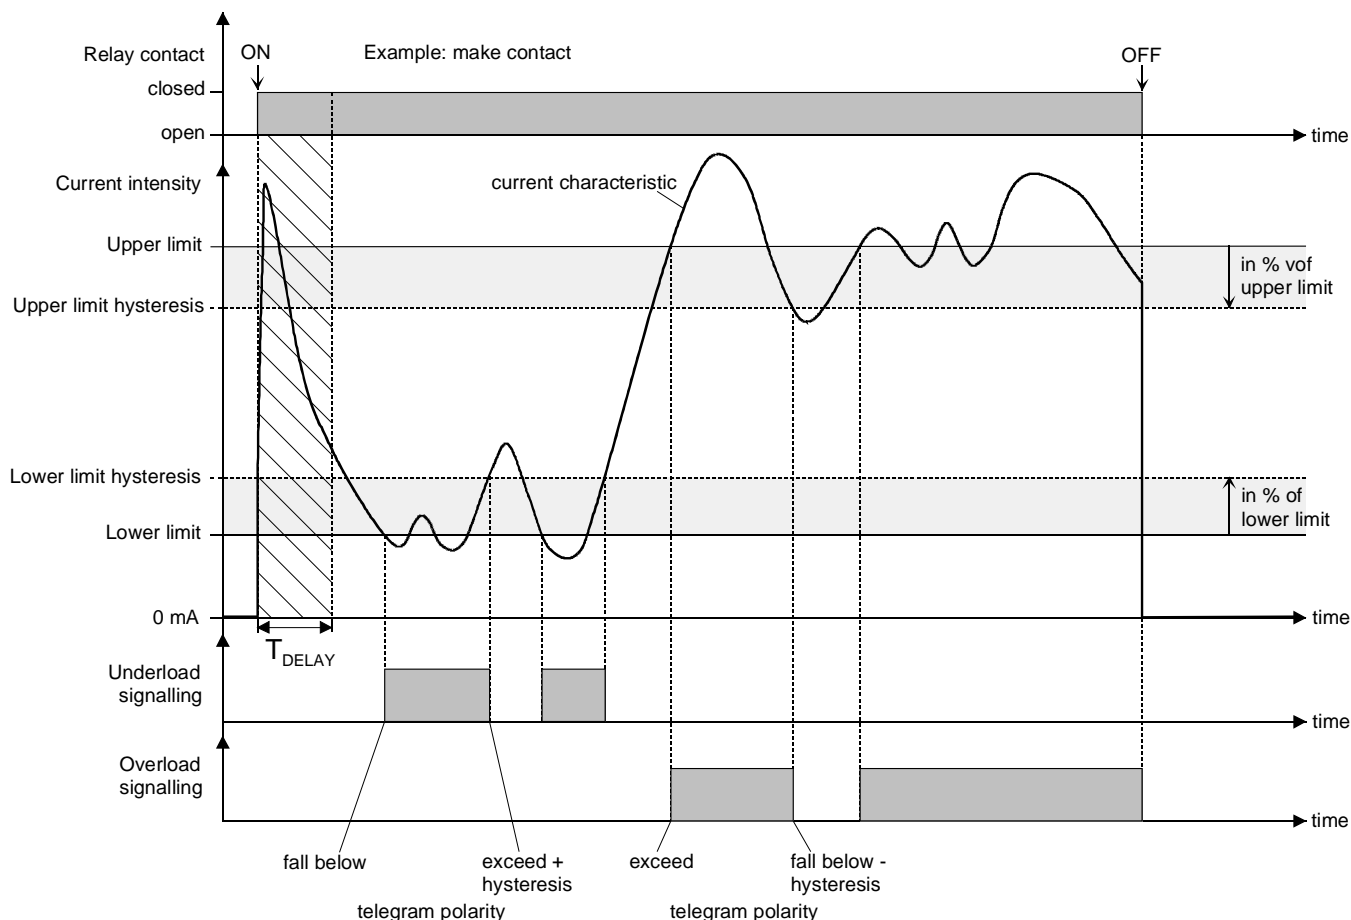

Fig. 17: Load monitoring with fixed load limits (exemplary current characteristic)
To increase noise immunity during reporting (suppression of small current fluctuations), a hysteresis can be separately specified for each current limit. The hystereses are parameterized in the ETS as a percentage of the current limits (cf. Figs. 17 & 18). For current measurements it is moreover possible to parameterize a delay ( $T_{\text{DELAY}}$ ) after a switching event (change from break to make) so that load monitoring is delayed and a debouncing effect for switch-on currents achieved. No current measurement is performed during this delay so that the current intensity value for this time is set to "0".
- Monitoring can be based on fixed load limits parameterized in the ETS. The load limits can be freely defined independent of the load current (cf. Fig. 17).
- i** The message telegrams are transmitted to the bus as soon as the currents are above or below the limit values or the hystereses (cf. Figs. 17 + 18). The actuator transmits message telegrams with the parameterized polarity after the end of the "Delay after bus voltage return" only if the currents – after return of bus voltage or after ETS programming – are below or above the limits. In all other cases, no message telegrams will be sent after a reset.